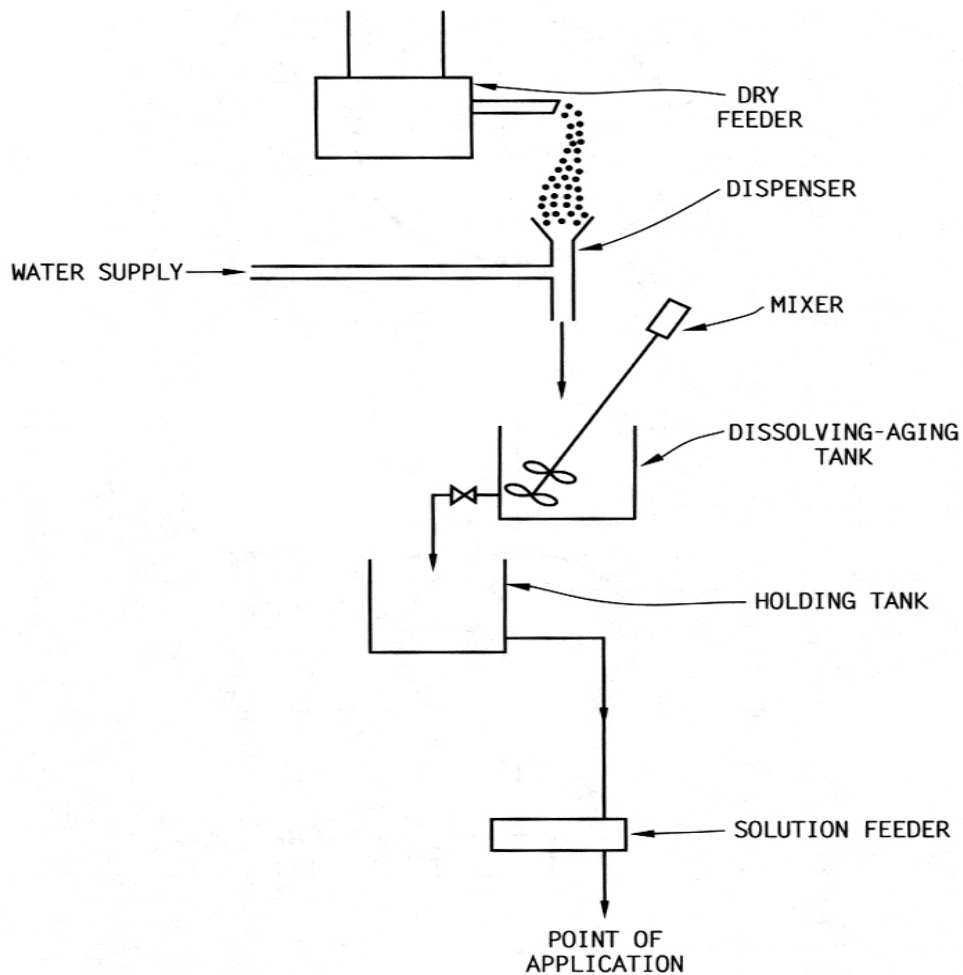

Figure 2.4 Dry Chemical Feed System 4
- Solids need to be dissolved in water before they can be used. Special equipment is required to properly meter the solid, wet the solid and mix it into a useable solution (see to Figure 2.4).